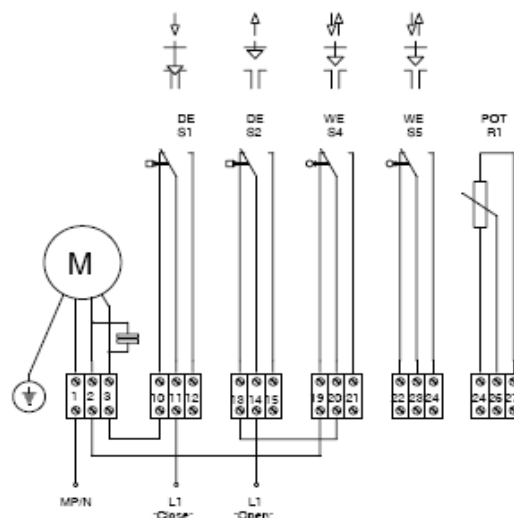
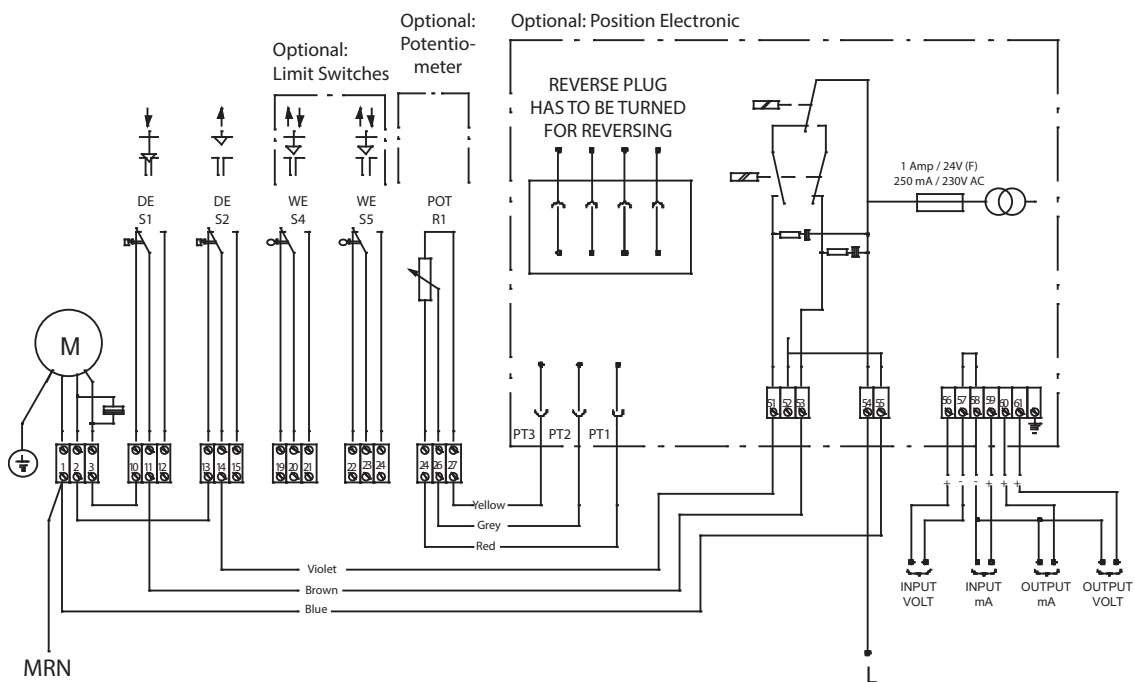

Figure 3
Figure 6
- Insert cables through the screwed glands and connect to the terminals according to the wiring diagram adhered inside the cover (see Figure 3 on page 5 and Figure 6 on page 8).